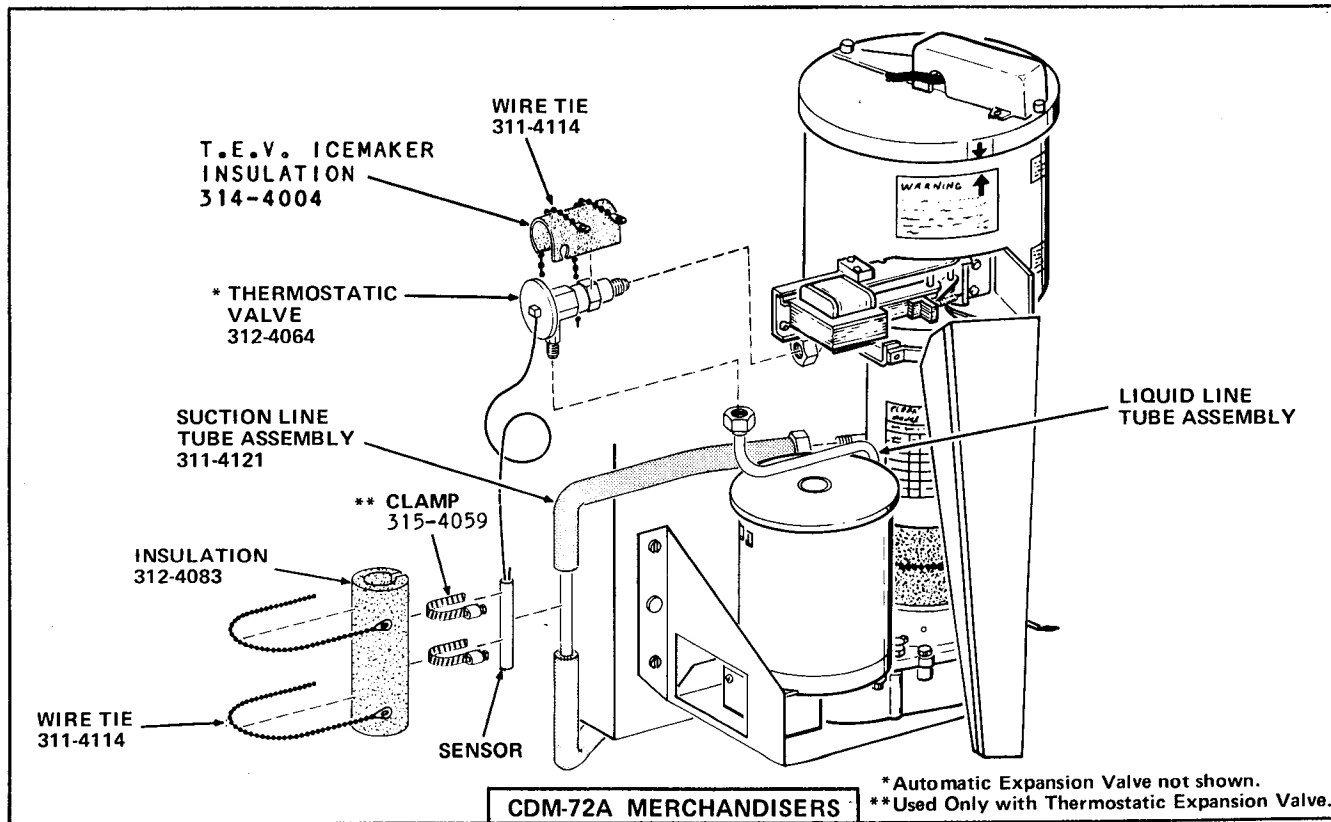
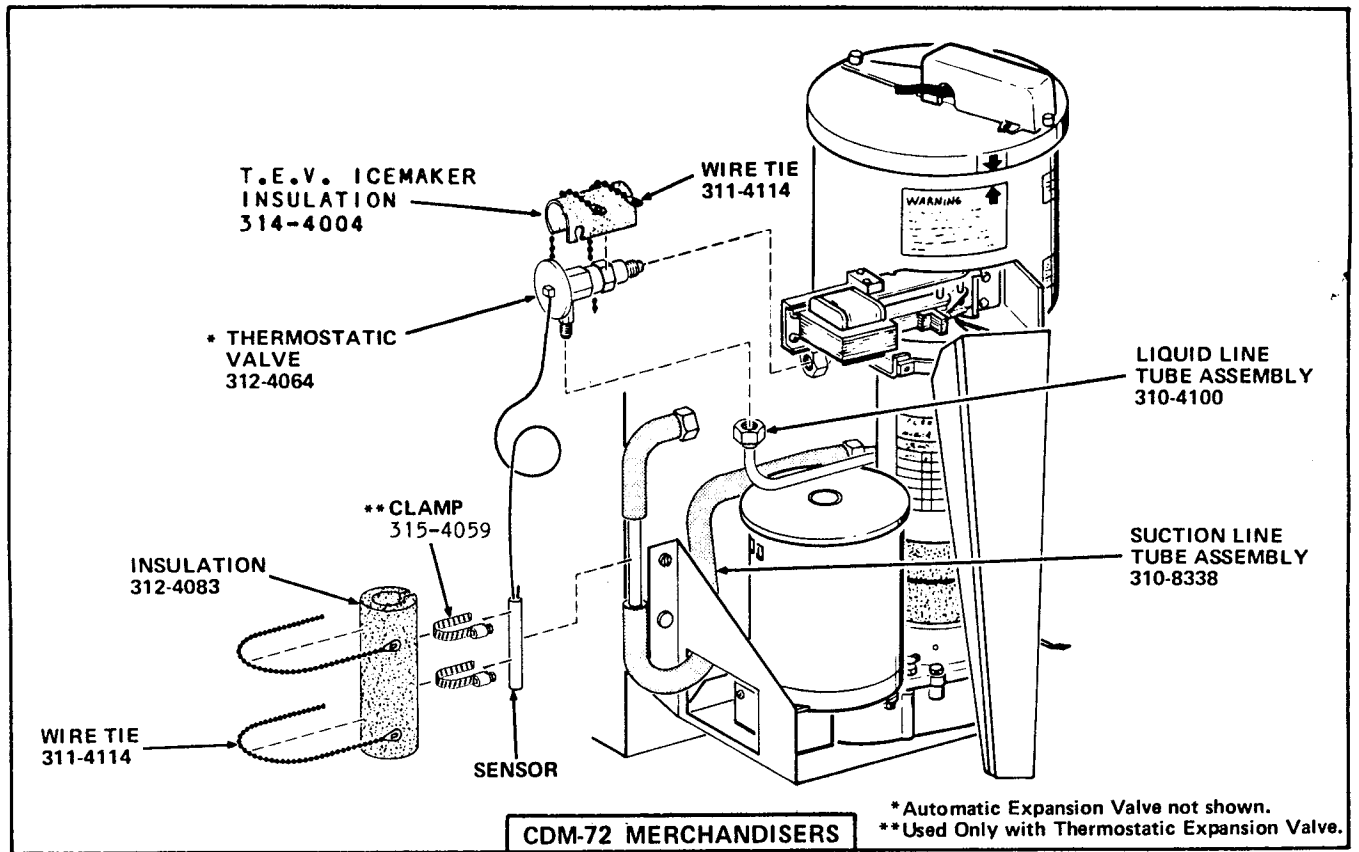

FIGURE IV-3
FIGURE IV-4
- K. Install the replacement Icemaker Suction Line Tube Assembly, Part Number 310-8338 (CDM-72 Merchandisers), or Part Number 311-4121 (CDM-72A Merchandisers) included in the Kit, in the Merchandiser by connecting one end of the Icemaker Suction Line Tube Assembly to the Solenoid Valve and the other end to the Icemaker Assembly. See Figure IV-3 for CDM-72A Merchandisers and Figure IV-4 for CDM-72 Merchandisers.